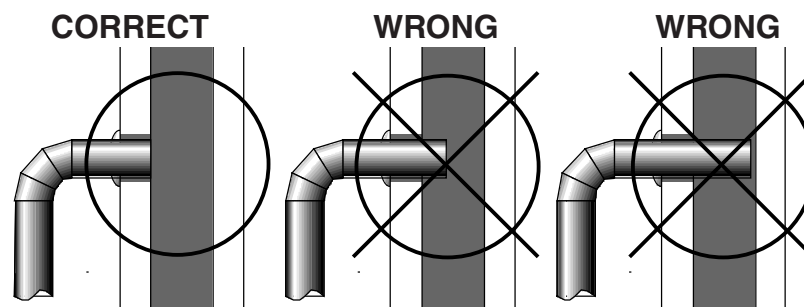

Fig.7 – Stovepipe/Flue Connections
4. The pipe cannot extend into the chimney flue (figure 7).
5. Secure pipe/elbow sections with three (3) sheet metal screws at each joint to make the piping rigid.
6. It is recommended that no more than two (2) 90 degree bends be used in the stovepipe installation. The use of more than two 90 degree bends may decrease the amount of draw and possibly cause smoke spillage. Where possible, use only corrugated (nonadjustable) elbows. These provide a better seal.
2. Install a metal or fire clay (5/8” minimum thickness) thimble. Make sure the thimble is flush with the inner surface of the chimney liner and does not protrude into the flue (see figure 7 on page 6).
4. Install the stovepipe into the thimble as far as possible without extending past the flue lining (see figures 7 & 8 on pages 6 & 7).